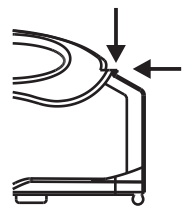

Fig. 10
- (E) Close the battery compartment door. Lift up on the two tabs until they “click” into place. See Fig. 10.